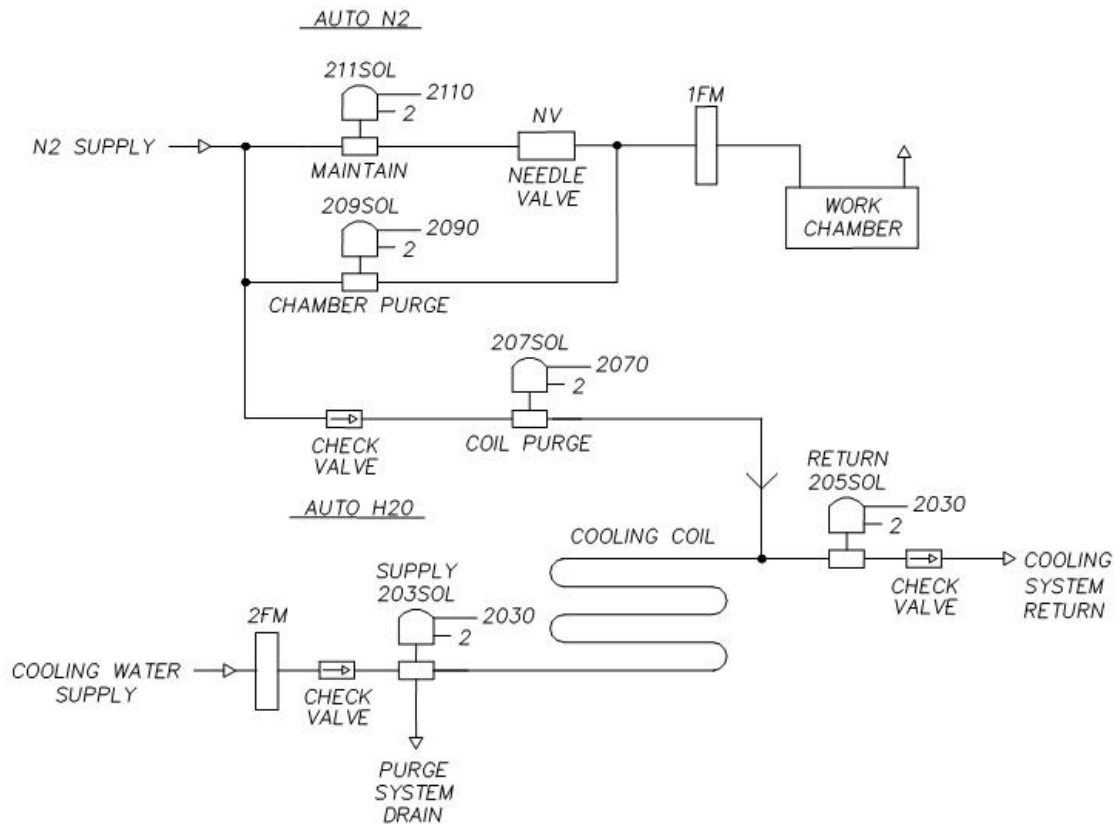

Figure 18. Water and Nitrogen Piping Schematic.
8. The third and final segment is the COOLDOWN MODE. In Cooldown mode, water valves are energized to bring the chamber to a safe unloading temperature (Figure 18).